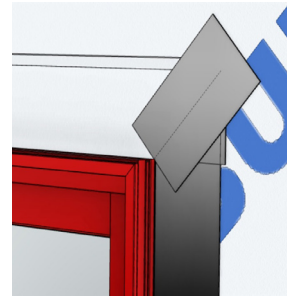

Fig F4
- Apply a short strip of flashing tape to fully cover the diagonal cut made in the WRB earlier (Fig. F4).